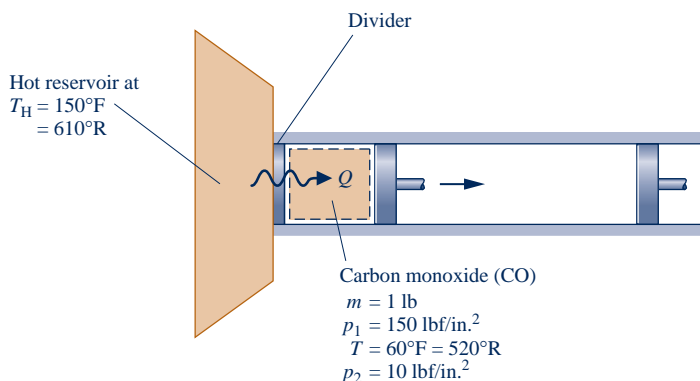

Fig. P6.51
6.51 As shown in Fig. P6.51, a divider separates 1 lb mass of carbon monoxide (CO) from a thermal reservoir at 150°F . The carbon monoxide, initially at 60°F and 150 lbf/in.^2 , expands isothermally to a final pressure of 10 lbf/in.^2 while receiving heat transfer through the divider from the reservoir. The carbon monoxide can be modeled as an ideal gas.